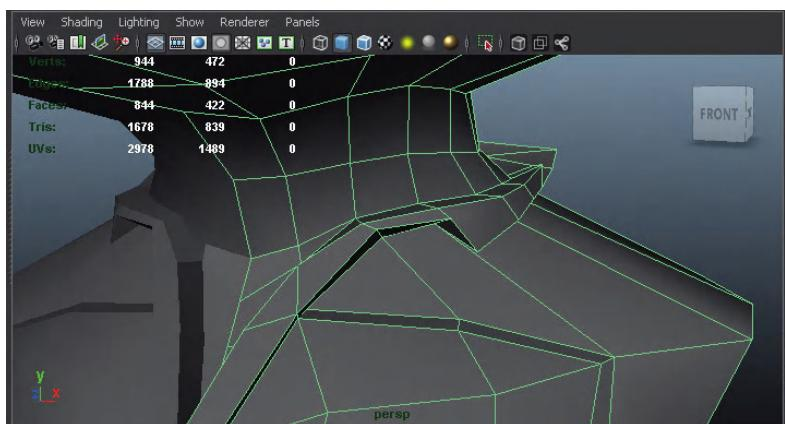

FIG 4.60 Refining the collar.
Step 78: Refine the collar. Figure 4.60 shows the refined collar. The methods used were mostly tweaking existing geometry, although if new geometry is needed, be sure to extrude it out (for instance – getting the collar above the breast plate).